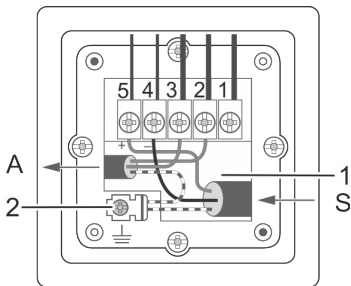

Fig. 3: BG1S/BG7S housing base
8. Thread the connection wires into the device through the cable feed-through (Fig. 3/1).
Insert the earth connection wire into the earth contact (Fig. 3/2).